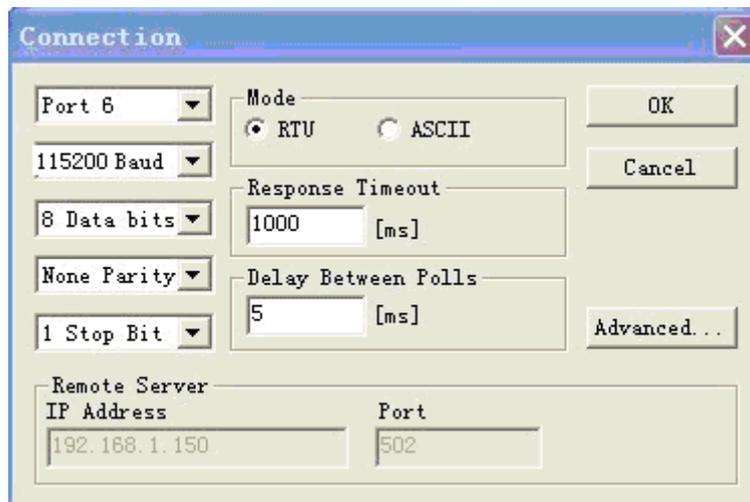

Figure 17
- Following we show how to use virtual serial port method, Config connection as Figure 17. Then press OK to open the COM6 to communicate with E7000.